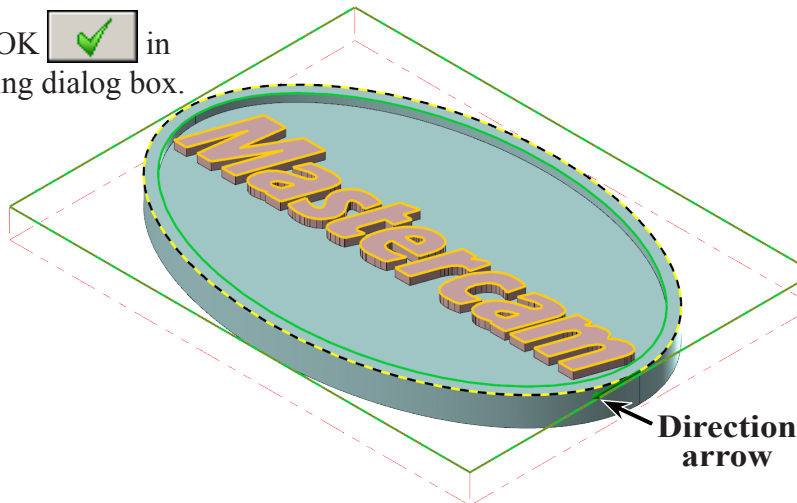
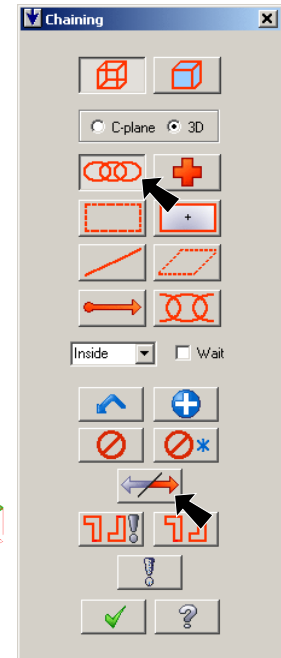

Fig. 73
Fig. 72
Step 3. Click **Chain**  (C) in Chaining dialog box, **Fig. 72**.
Step 4. Click **outside ellipse** to Chain, **Fig. 73**. The chain arrow should point **clockwise** around the chain. If chaining directions arrow is pointing in the opposite direction - click Reverse , **Fig. 72**.